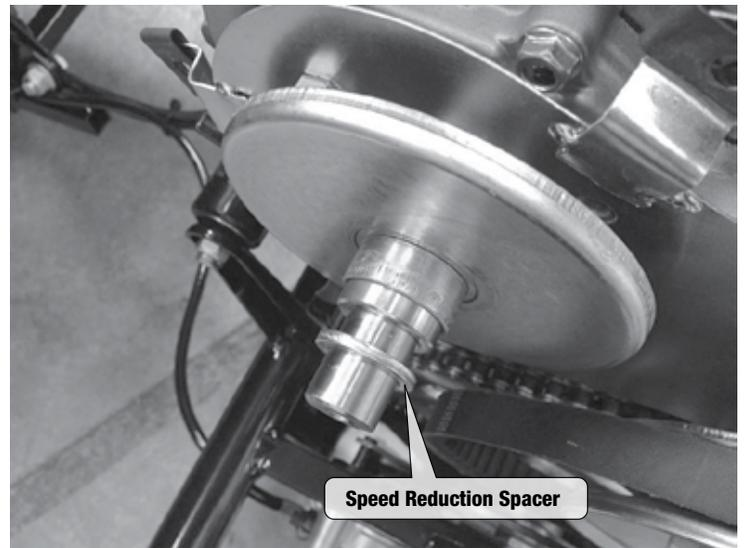

fig. 6
3. With the outer sheave assembly removed, the Speed Reduction Spacer will be exposed. Ref Fig 6.